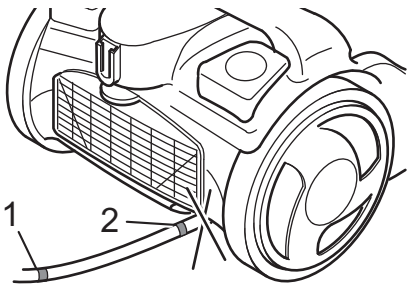

Fig.10
2. Pull the cable holding the plug (Fig. 1/18) until the yellow mark (Fig. 10/1) is reached.
If the red mark (Fig. 10/2) is visible, then retract the cable again until it is no longer visible, ▷ *Chapter 3.2, "Switching off and retracting the power cable"*. Otherwise the cable can break off. There is a risk of electric shock.